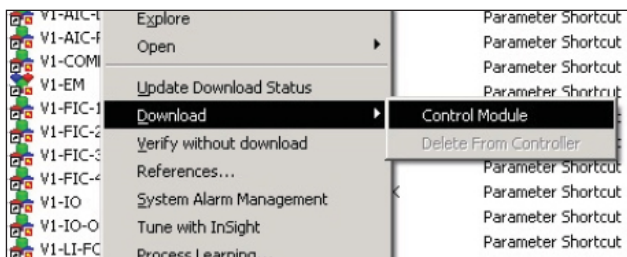

Figure B.5. Right-click module, select “Download,” then “Control Module.”
6. Right-click the module. In the menu that appears, click **Download** and then, **Control Module** (Figure B.5).